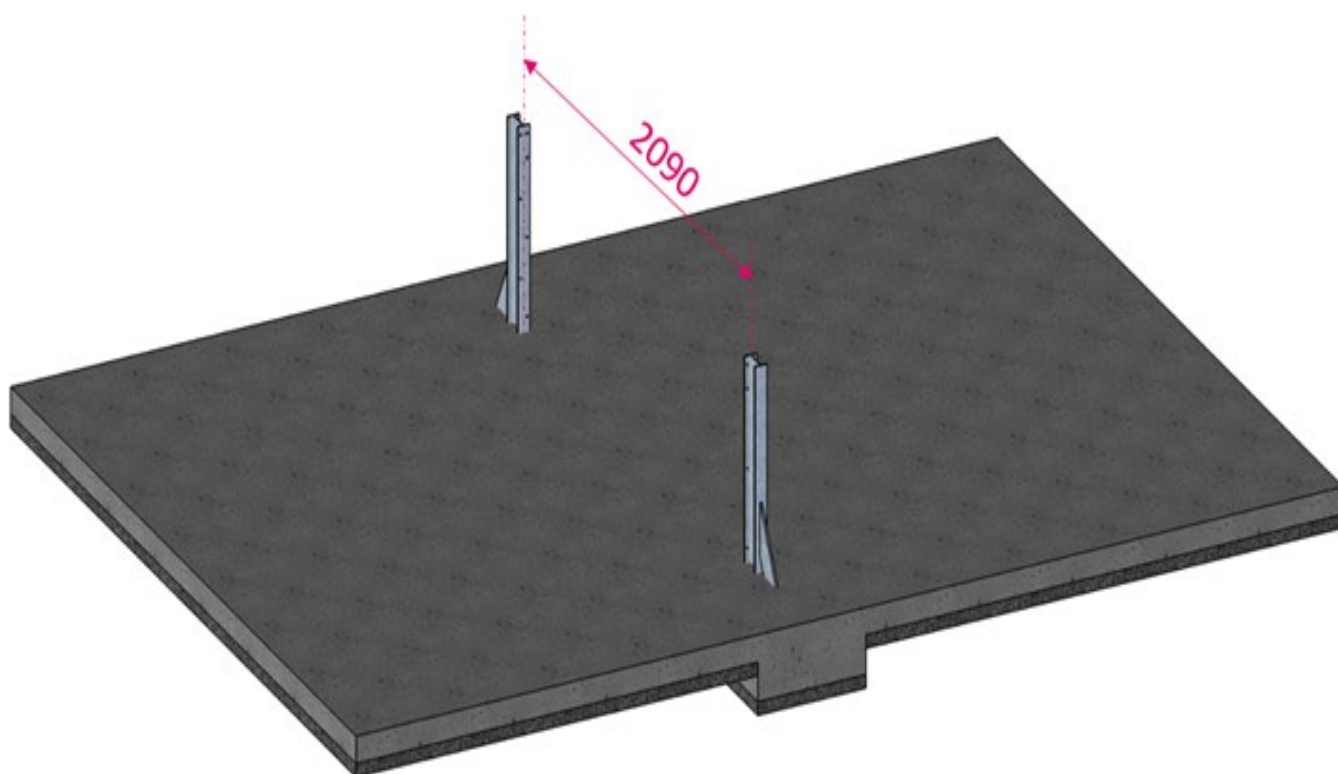

Figure 3 – Location of the supporting braces
TIP: You can use the supporting braces to visualise how high the concrete slab should be once it has been poured. To do this, taking the top of the pool wall, below the coping, as level 0 (underneath the coping, see Figure 3), measure 0.755 m and mark this distance on the front of the supporting brace. This mark will correspond to the height of the finished concrete slab.
- ❗ Check that all the dimensions quoted in Figure 3 are correct before proceeding with the next step.